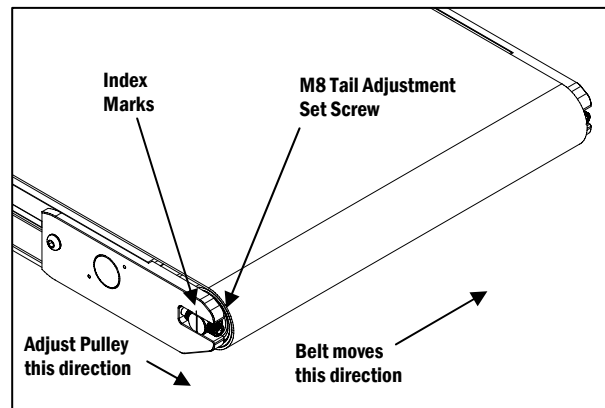

Figure 2
b. The tracking adjustment at the tail end is very responsive. For best results, make only minor adjustments. Allow the belt to make several revolutions to determine if more adjustment is necessary. The Tail End is tracked when the belt can make several revolutions without contacting the inside edges of the tail plates (Figure 2).